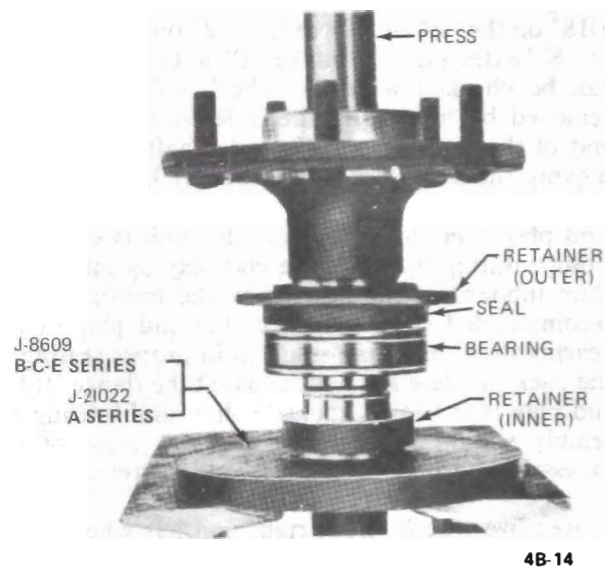

Figure 4B-14 Pressing New Retainer Ring Against Bearing
1. Install axle shaft bearing and seal remover J-23689 and remove the bearing and seal. See Figures 4B-15 and 4B-16.
2. Using the axle shaft bearing and seal Installer J-23690, install the bearing and then the seal. See Figure 4B-17.